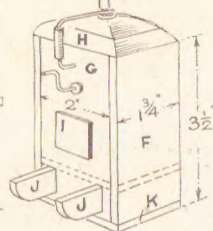

Fig. 3—Firebox
$\frac{1}{8}$ in. or $\frac{1}{4}$ in. wood. The two brackets (J) are cut to the outline given on the pattern sheet and glued as shown underneath the footplate, see Figs. 3 and 4.